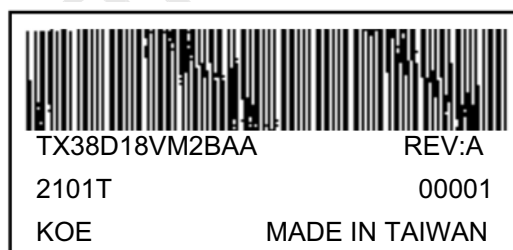

Fig. 13.1
- 1) The lot mark is showing in Fig.13.1. First 4 digits are used to represent production lot, T represented made in Taiwan, and the last 6 digits are the serial number.
- 4) The location of the lot mark is on the back of the display shown in Fig. 13.1.